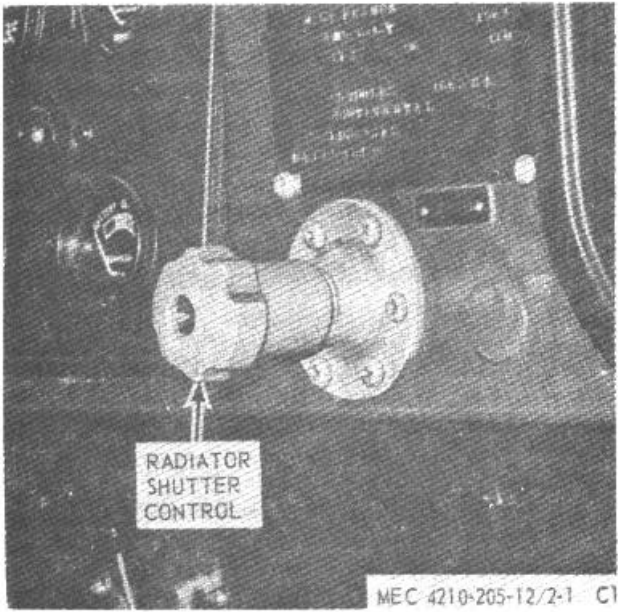

Figure 71.14. Engine radiator shutter control.
a. Pull the control knob (fig. 71.14) outward to close the shutters, restricting air flow through the radiator.